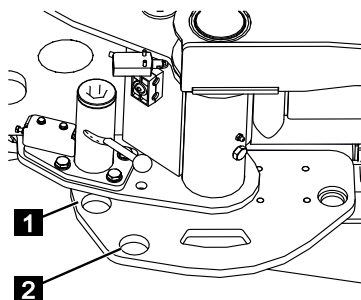

Fig. 125
3. Pivot the outrigger so that the latching bolt is positioned over the drilled hole for the narrow (Fig.125/1) or wide (Fig.125/2) work position.